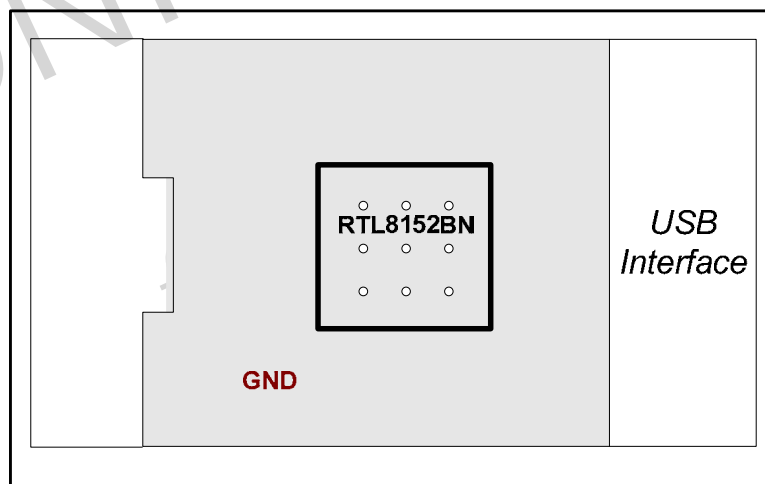

Figure 5. Ground Plane Layout-1 (RTL8152BN)
- RTL8152BN: The size of the center EPAD ground is 4.4mm x 4.4mm. The PCB layout requires 9 vias to connect the EPAD to the lower layer ground plane (see Figure 5)